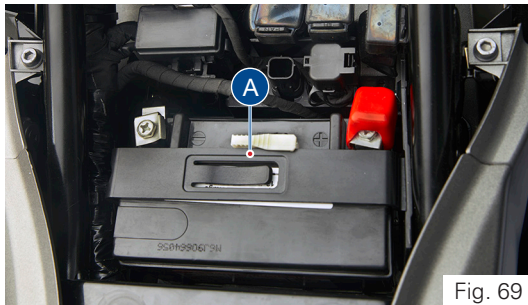

Fig. 69
- Remove the mounting bolt and take the battery holder (A) (ref. Fig. 69)